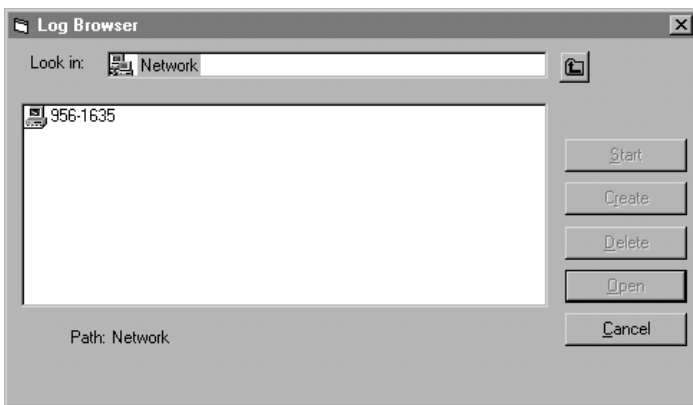

Figure 14: Computer selection
- Click on the *log browser* option. The dialog box shown in *Figure 14* below appears.